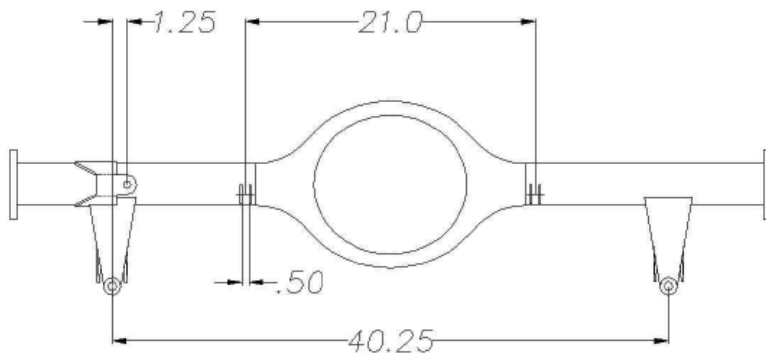
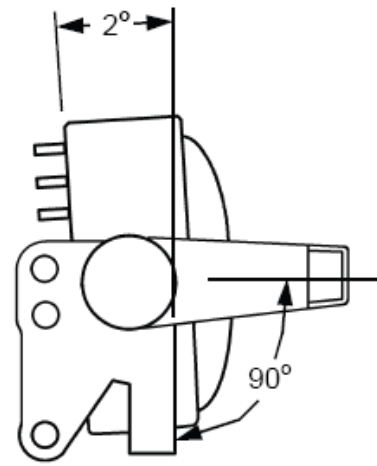

Figure 4. Axle brackets (Front View)
Figure 5. Axle Brackets (Driver Side View)
- 8) Figure 4. Sway bar tabs are located 21" apart with a 1/2" gap and 5/8" below axle centerline. The Panhard bar bracket is located on the left coil-over bracket locating against the coil-over bracket, positioned at 90° as shown in s (Front View) Figure 5.
- 11) With 1 upper link disconnected, adjust the lower links evenly to the proper wheelbase, and use the upper bar to fine tune the pinion angle to 2° down, refer to s (Front View) Figure 5. Once set, adjust the second upper bar to the proper length, swing in place – the bolt should slide right in. Double check all angles, then tighten down all bolts and nuts, including jam nuts.